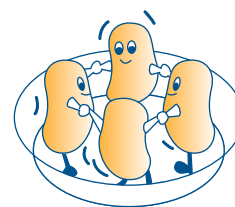

fig. 10
- 4) If many portions of the same food are cooked, for example boiled potatoes, **arrange them in a ring** around the dish to obtain even cooking (fig. 10).